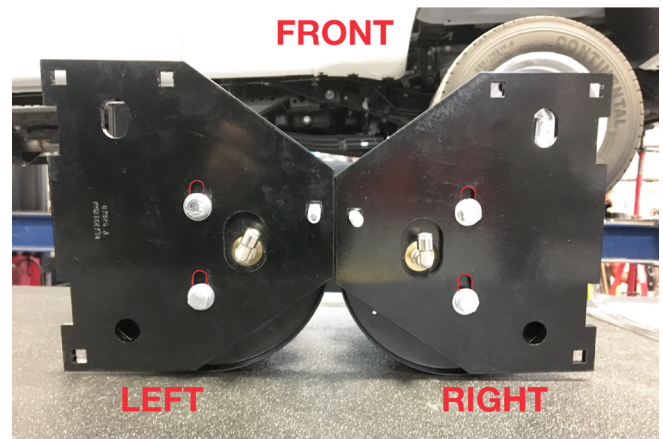

Fig. 8
- Insert 3/8"-16 x 1 1/4" carriage bolts (N) into the square holes on the brackets, then secure the upper air spring bracket (E) onto the top of the air springs using 3/8"-24 x 7/8" hex bolts (X), 3/8" lock washers (Y) and 3/8" flat washers (S). At this stage, the air spring assemblies are left- and right-hand units. Push the brackets as far forward as possible (Fig. 8). Torque the hardware to no more than 20 lb.-ft. (27Nm).